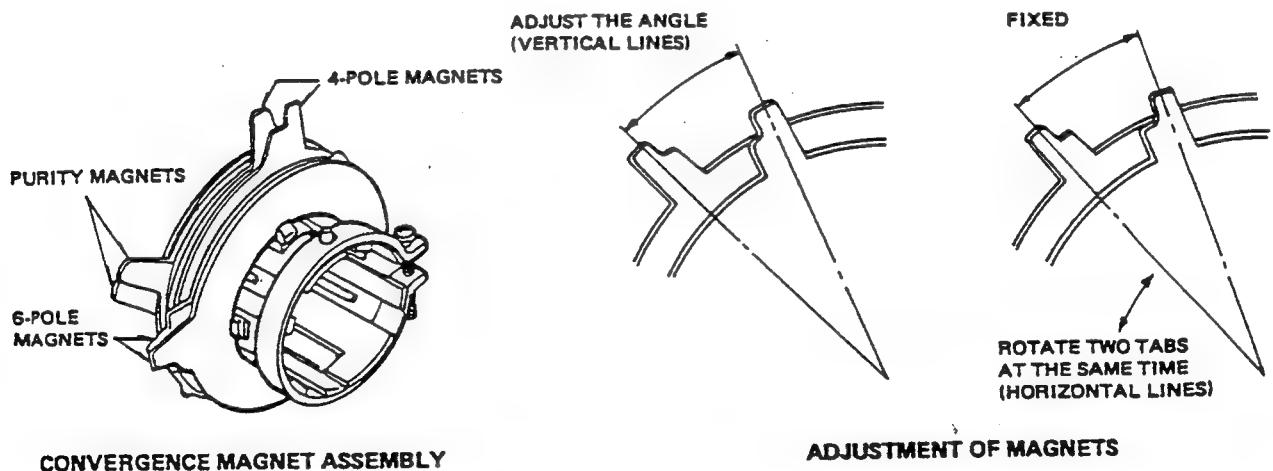

Fig.21.
- (f) Rotate and spread the tabs of the purity magnet (see Fig.21.) around the neck of the picture tube until the green belt is in centre of the screen. At the same time, centre the raster vertically.
- (c) Adjust two tabs of the 4 Pole Magnets to change the angle between them (see Fig.21.) and superimpose red and blue vertical lines in the centre area of the picture screen. (See Fig.22.)
- (d) Turn both tabs of the 4 Pole Magnets to change the angle to superimpose red and blue horizontal lines at the centre of screen (See Fig.21.)